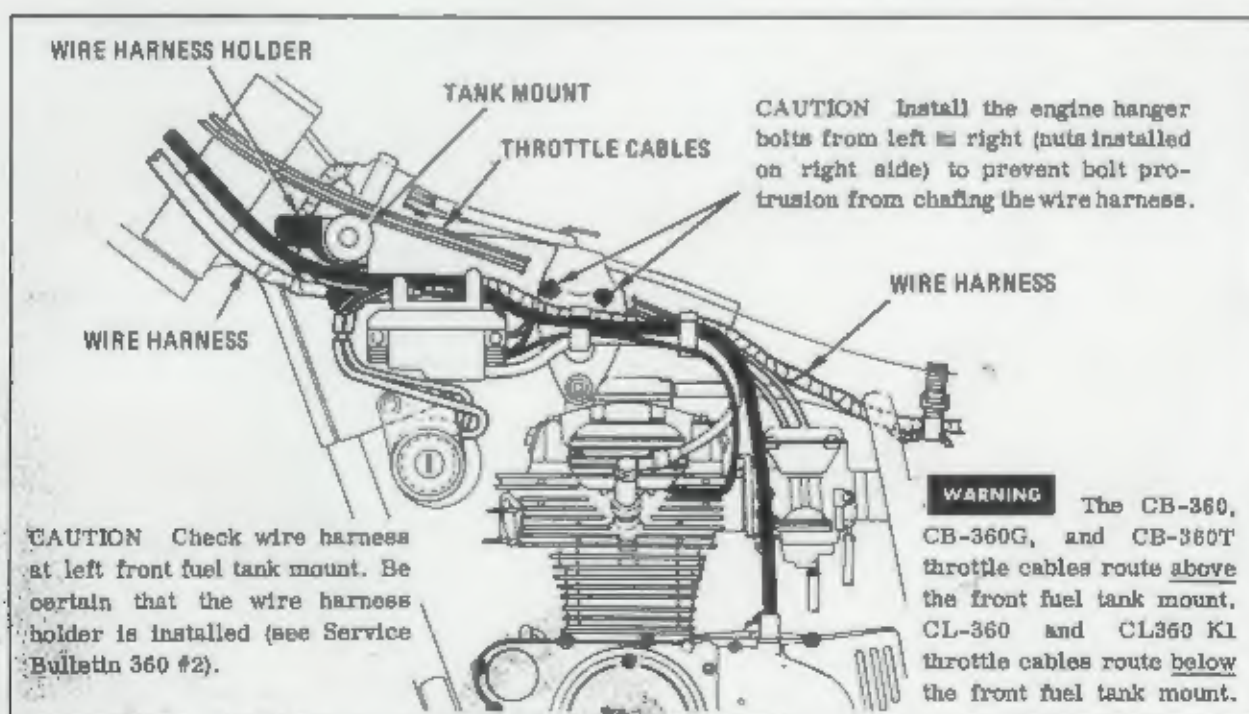

FIG. 20
14. Reassemble following the procedure described in the shop manual. Observe the warning and cautions shown below (Fig. 20).